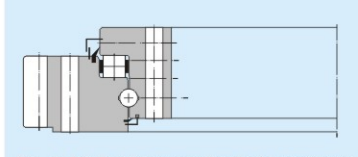

Fig. 1. 15 Double-row roller/ball combination bearing with external gear
- Four-point contact ball bearing, see Fig. 1. 3~Fig. 1. 5.
- Cross cylindrical roller bearing, see Fig. 1. 6~Fig. 1. 8.
- Double-row ball bearing, see Fig. 1. 9~Fig. 1. 11.
- Three-row cylindrical roller combined bearing, see Fig. 1. 12~Fig. 1. 14.
- Double-row roller/ball combination slewing bearing, See Fig.1. 15.